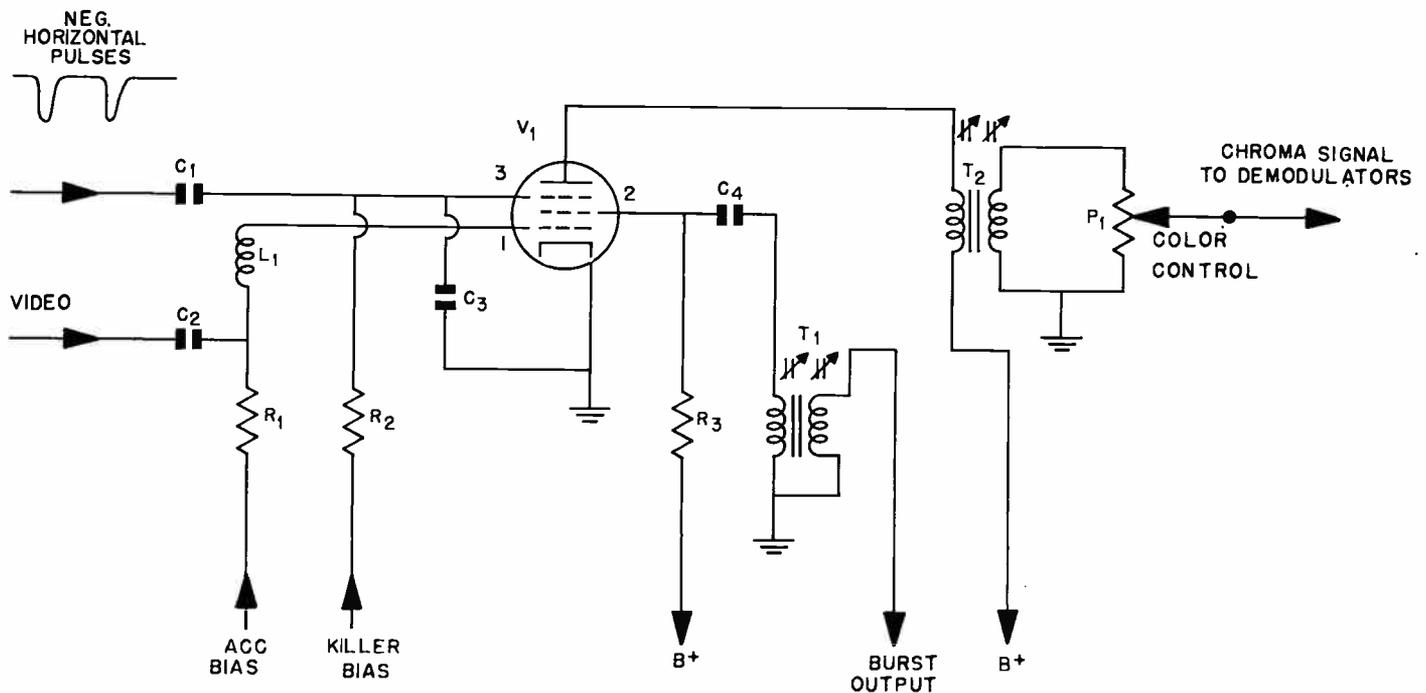

Fig. 22. Dual grid controlled pentode circuit combines chroma bandpass amplifier and burst keyer circuit.
A rather interesting circuit which uses a dual grid controlled pentode tube and performs the two functions of chroma amplifier and color burst amplifier is shown in Fig. 22. Notice that in this circuit we have the complete color signal fed from the video amplifier through C_2 and L_1 to the grid of V_1 . At the same time
- (y) In the circuit shown in Fig. 22, from what element of V_1 is the burst signal removed?
- (z) Will an amplified color burst signal appear at the plate of V_1 in the circuit shown in Fig. 22?